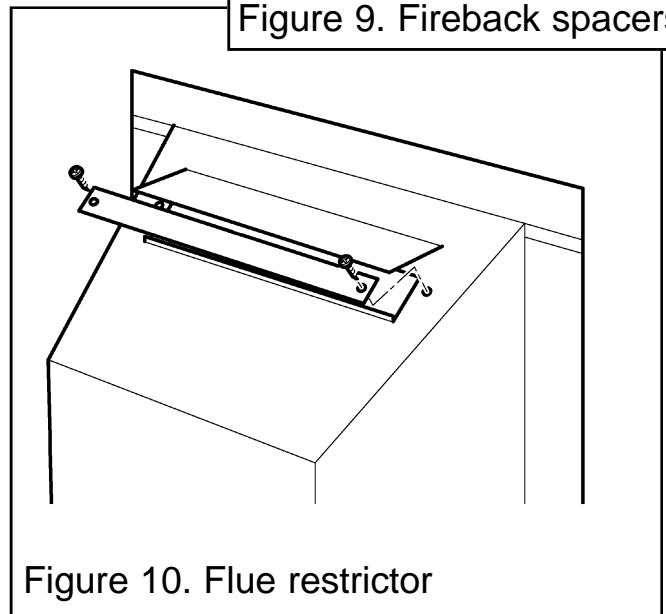

Figure 10. Flue restrictor
6. This appliance is supplied with a flue restrictor for use where the flue draught is excessive. The restrictor must NOT be fitted where a precast flue or a flue liner is used. For all other installations the restrictor should be fitted. There may however, be certain circumstances where fitting the restrictor causes the fire to fail the spillage test. In such cases the restrictor will have to be removed. After removal conduct the spillage check again. The restrictor is packed loose with the appliance and is fixed with two screws (See figure 10).